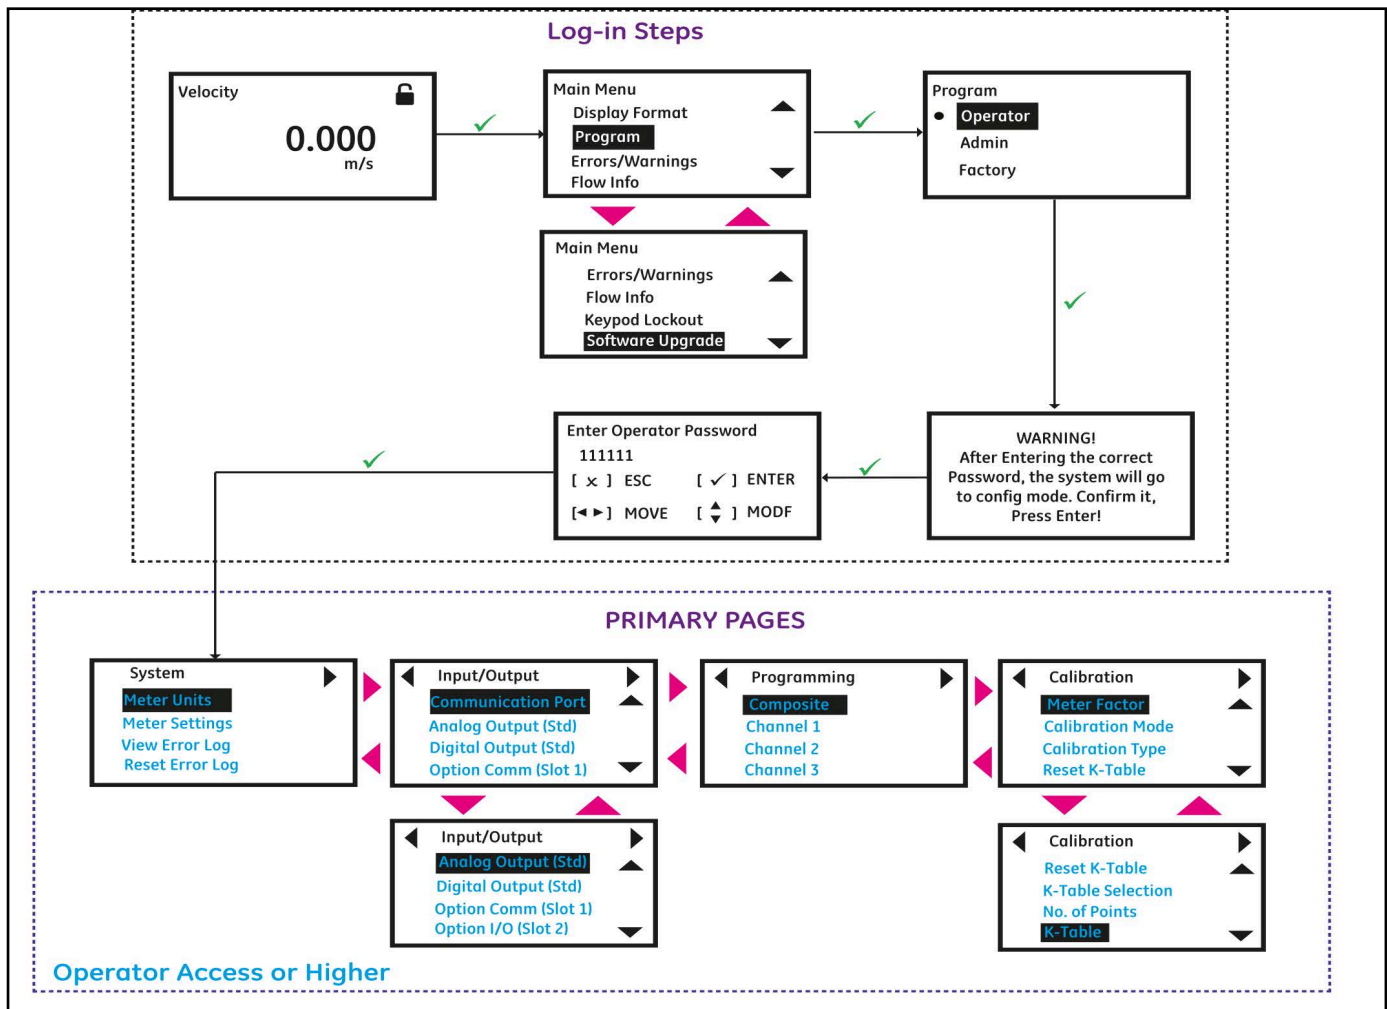

Figure 27: Log-in Steps and Primary pages
5. After completing the log-in steps you will see the primary pages as shown in the Figure 27. To move from one page to the next, press [◀] or [▶] and to scroll to options within a page press [▲] and [▼].